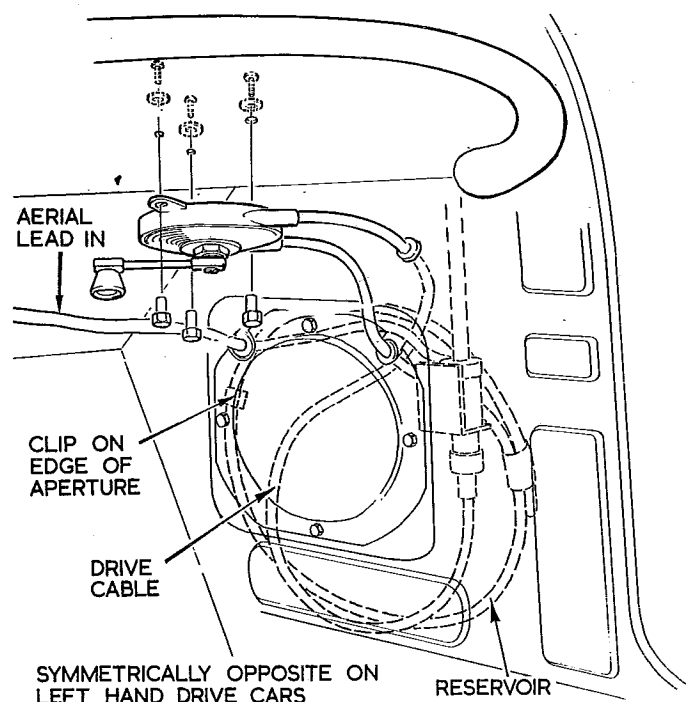

FIG. 2
5. From inside the car pass aerial mast assembly up through hole in wing and secure base of aerial to the bracket provided in car. See Fig. 2.
8. Route the drive cable via hole inside scuttle, as shown in Fig. 2. Fit the grommet provided and refit cable to winder box.
9. Secure the winder box to underside of parcel tray, as shown in Fig. 2.
11. Route aerial lead and drive cables as shown in Fig. 2. Drive cable should be routed to maximum radius. Clip and tape up cables as shown.